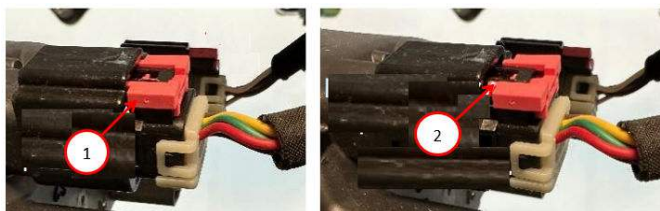

Fig. 1
2. Inspect the connector tab lock feature on the torque sensor harness connector to confirm if it is in the fully engaged position Fig. 1.
3. Is the connector tab lock feature in the fully engaged position Fig. 1?